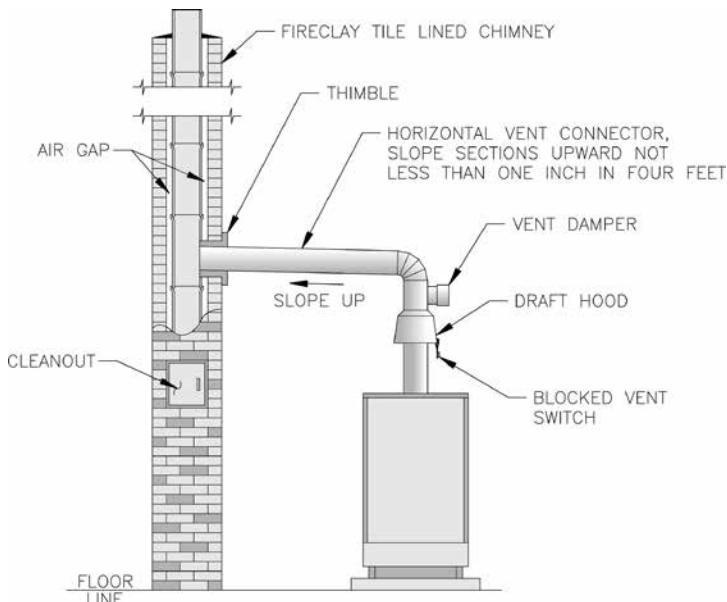

Figure 7: Typical Vent System Installations
B. Inspect Vent System (Monthly). See Figure 7. Follow instructions TO TURN OFF GAS TO APPLIANCE (see Figures 4 thru 6) and contact a qualified service agency if any of the following conditions are found: